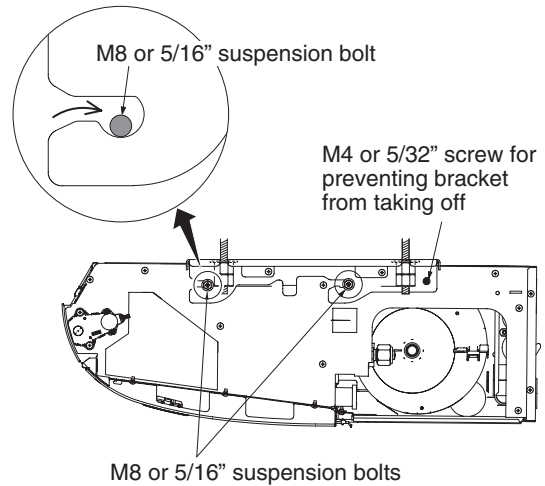

Fig. 1-197
- b) Suspend the indoor unit to the bracket. Tighten the M8 or 5/16" suspension bolts and fix the indoor unit in place. (Fig. 1-197)